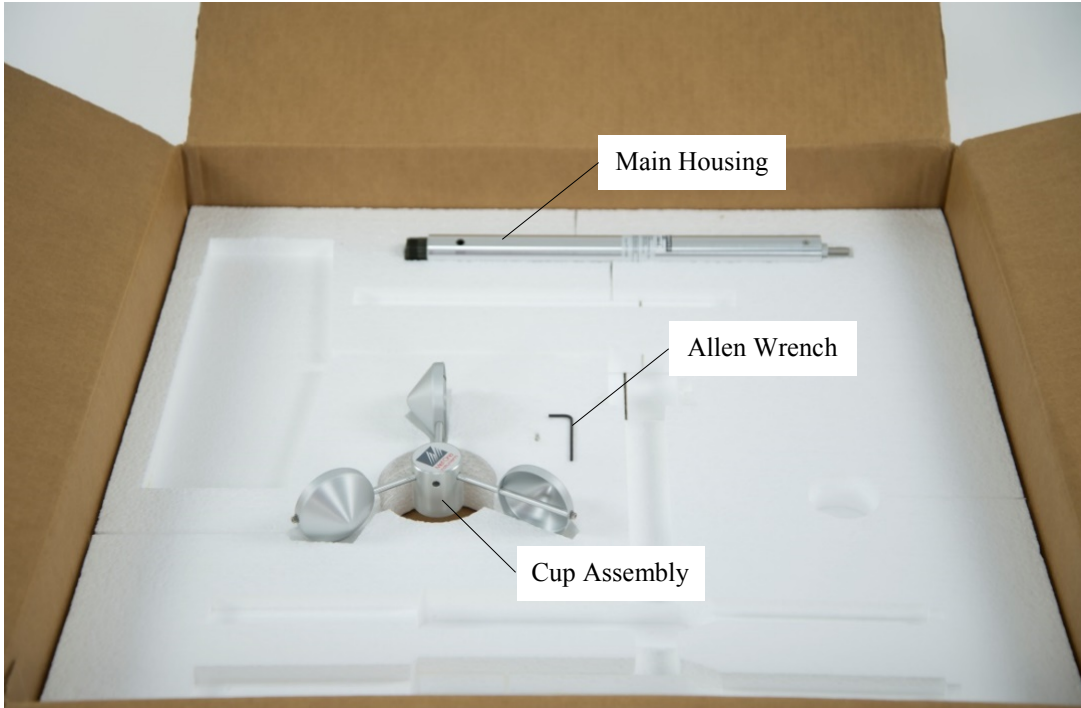

FIGURE 7-1. 014A shipping box
1. Take the cup assembly and main housing out of the shipping box (see FIGURE 7-1).